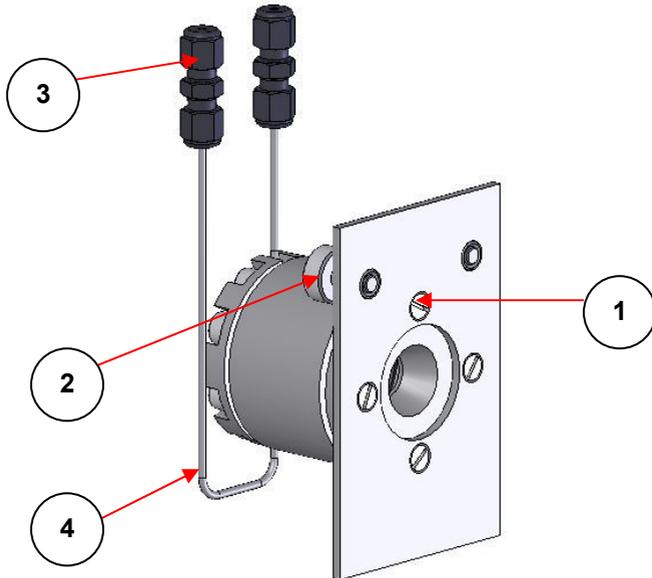

Fig 2. Fitting of the 3'' x 2'' slide mount backplate to the High Pressure Liquid Cell
1. Secure the 3" x 2" slide mount backplate to the back of the High Pressure Liquid Cell body using the four cross head screws (supplied) in the fixing holes (1). (See Fig 2). Ensure the slide mount backplate is fixed to the cell body with the two thumbscrew fittings (2) being at the top as seen in Fig 2..
2. Slide the 3" x 2" back plate now fixed to the High Pressure Liquid Cell into the 3" x 2" mount plate of the spectrometer and secure using the two thumbscrews (2).
3. Connect the High Pressure Liquid Cell to the sample flow stream pipework via the 1/16" O.D Swagelok connectors (3).